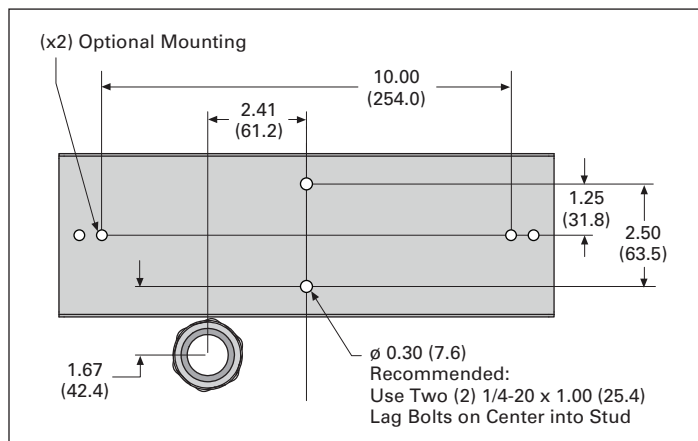

Figure 15. Wallmount Bracket Layout—Back Wire and Bottom Conduit Entry
Step 2: Attach the wallmount bracket to the wall as shown in **Figure 15**. If installing on a wood stud, use 1/4 x 3.00-inch long lag screws and washers, and ensure that the plate is mounted on the centerline of the stud. These should be galvanized or stainless steel for weather protection if mounting outdoors. If mounting onto a concrete, block, or brick wall, use an appropriate anchor for the type of wall on which you are installing the unit. Again, these should be appropriate for weather conditions if mounting outside.